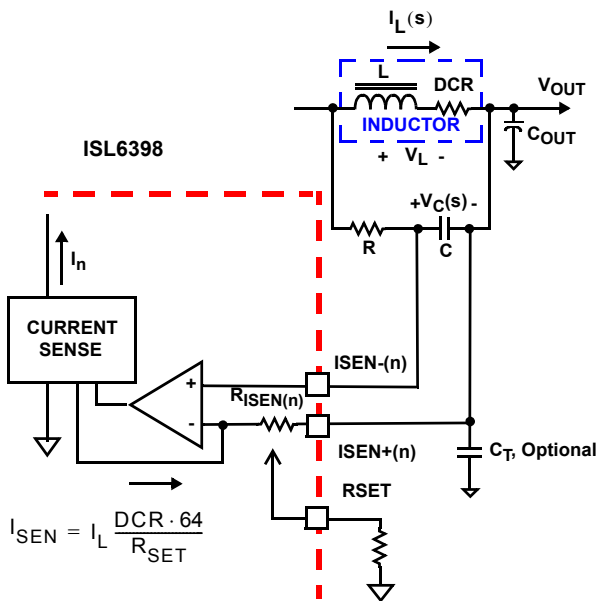

FIGURE 4. DCR SENSING CONFIGURATION
The internal circuitry, shown in Figures 4 and 5, represents one channel of the VR output, respectively. The ISEN± circuitry is repeated for each channel, but may not be active depending on the status of the PWM[6:2] pins, as described in “PWM Operation” on page 17. The input bias current of the current sensing amplifier is typically 25nA; less than 8kΩ input impedance is preferred to minimized the offset error, i.e., a larger C value as needed.
An inductor’s winding is characteristic of a distributed resistance, as measured by the Direct Current Resistance (DCR) parameter. Consider the inductor DCR as a separate lumped quantity, as shown in Figure 4. The channel current I_L , flowing through the inductor, will also pass through the DCR. Equation 4 shows the S-domain equivalent voltage across the inductor V_L .
A simple R-C network across the inductor extracts the DCR voltage, as shown in Figure 4.
The current sense circuitry operates in a very similar manner for negative current feedback, where inductor current is flowing from the output of the regulator to the PHASE node, opposite of flow pictured in Figures 4 and 5. However, the range of proper operation with negative current sensing has a limitation. The worst-case peak-to-peak inductor ripple current should be kept less than 80% of the OCP trip point (~80 μA). Care should be taken to avoid operation with negative current feedback exceeding this threshold, as this may lead to momentary loss of current balance between phases and disruption of normal circuit operation. Note that the negative current can especially affect coupled inductor designs, where the effective inductance is the leakage between the two channels, much lower than the specified mutual inductance (LM) and self inductance (L). To limit the impact, a higher R_{SET} value (1.5x to 2x) is often used to reduce the effective negative current seen by the controller in coupled inductor designs.